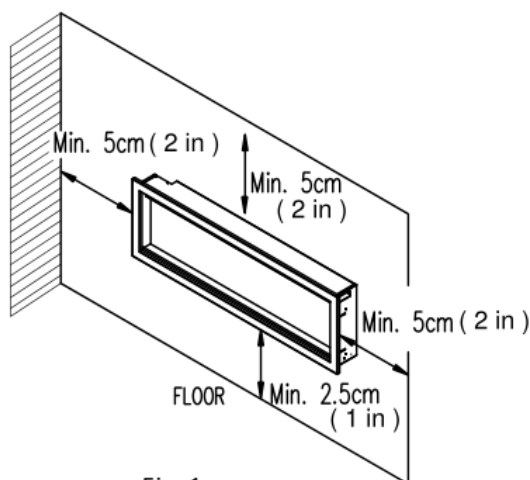

Fig. 1
2. Using a spirit level to select a position in which to mount the heater horizontally. See Figure 1.